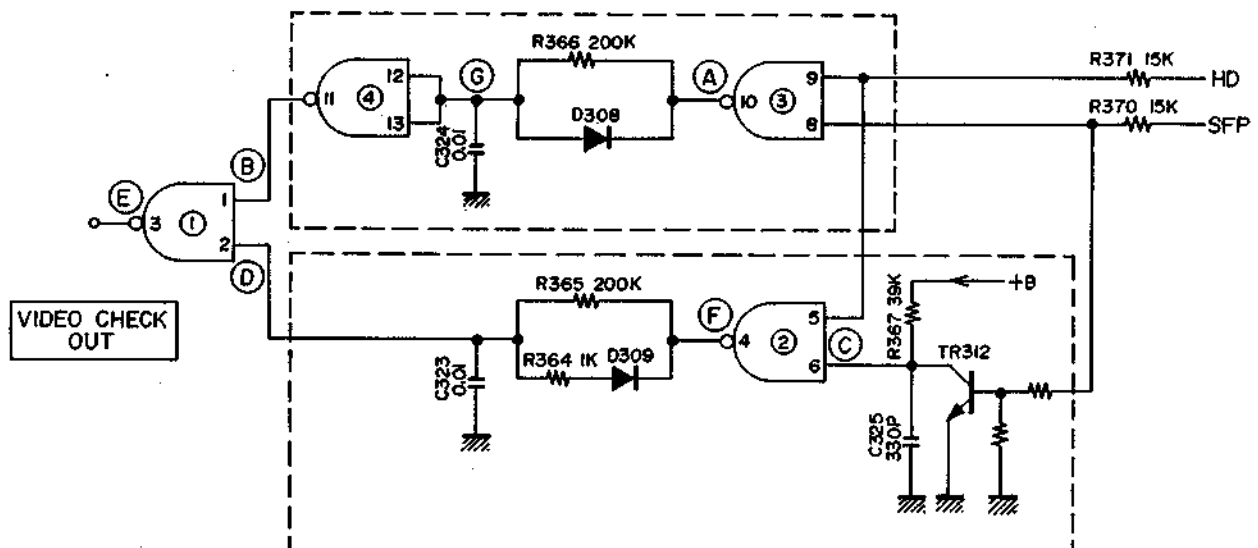

Fig. 29
The operation of the circuit is described by using Fig. 29.
In Fig. 29, SFP and HD are supplied from IC8 within the Video P.C Board, and SFP is $\frac{1}{160}$ of 160 fH oscillated by VCO (SYNC. FRONT PULSE) and outputted from IC8 (4), and HD is the input video signal sync-separated. The output terminal is IC8 (18). Therefore, when the video signal exists, HD and SFP are in fixed phase relationship, but in the case of noise, SFP is the one free oscillated by VCO, and VD receives the input of noise only.